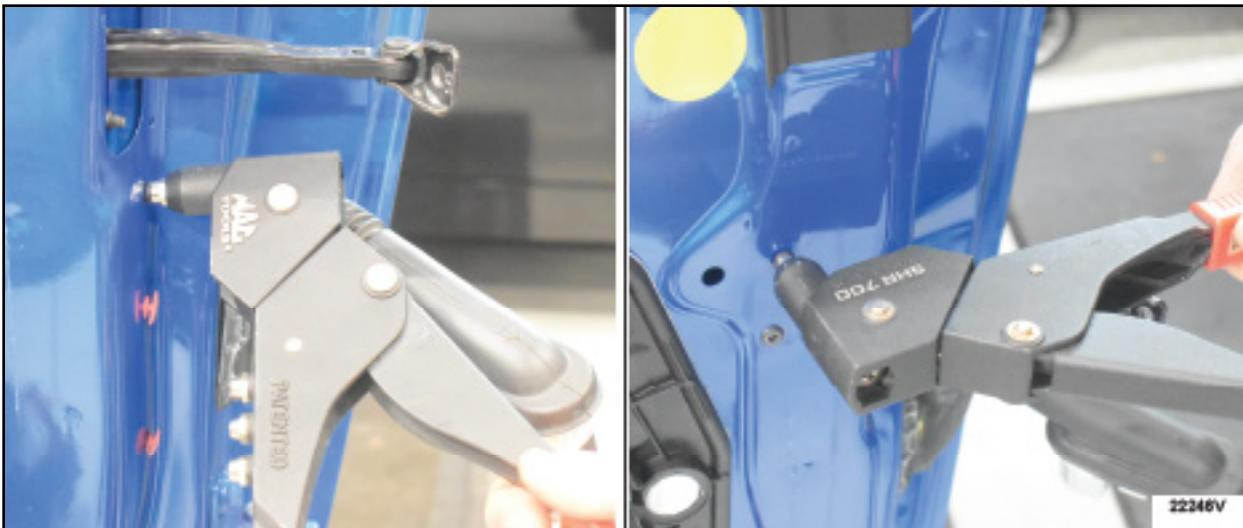
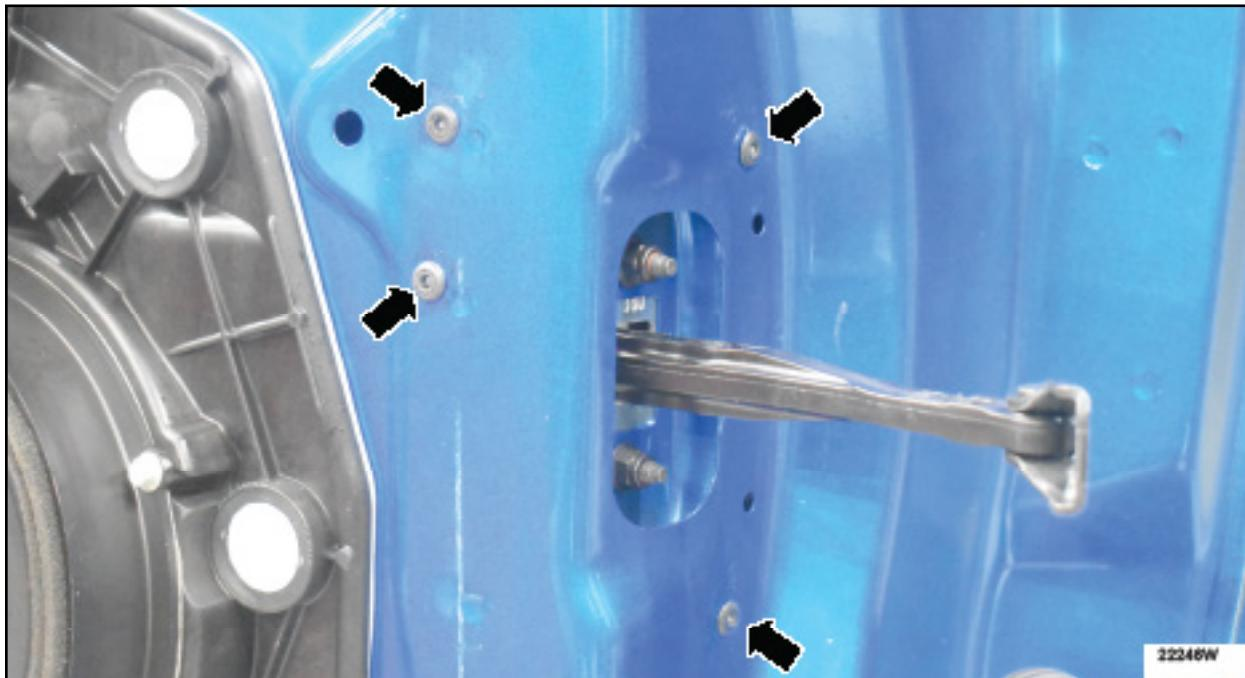

FIGURE 15
FIGURE 16
13. Using four (4) of the pop rivets included in the service kit and a rivet gun, install all four rivets into the previously drilled out holes. See Figure 15. Figure 16 shows all four (4) rivets installed.